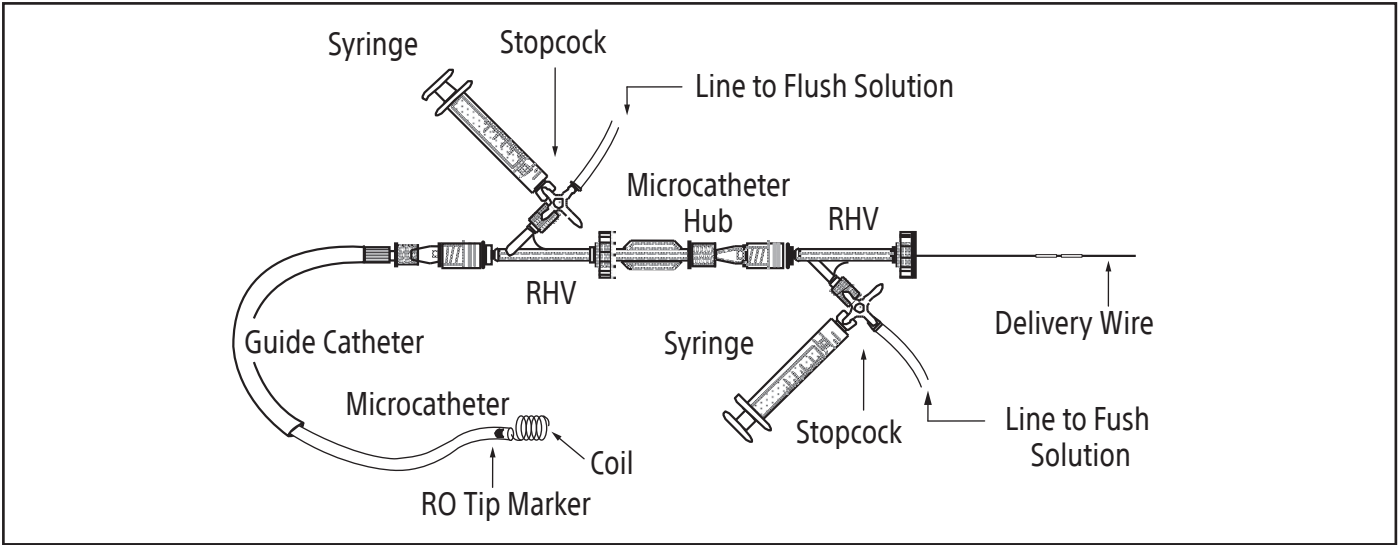

Figure 2. Example of continuous flush setup
2. In order to achieve expected performance of the EMBOLD Fibered Detachable Coil System and reduce the risk of thromboembolic complications, it is critical that a continuous flow of appropriate flush solution be maintained between a) the microcatheter and guide catheter, and b) the microcatheter and any intraluminal device. Securely attach an RHV to the proximal luer adapter on the hub of the microcatheter. Begin continuous flow of an appropriate flush solution. In general, 1 drop of flush solution every 1 second – 3 seconds (300 mm Hg) from a pressure bag containing the flush solution is recommended. An example of a continuous flush setup is shown in Figure 2.